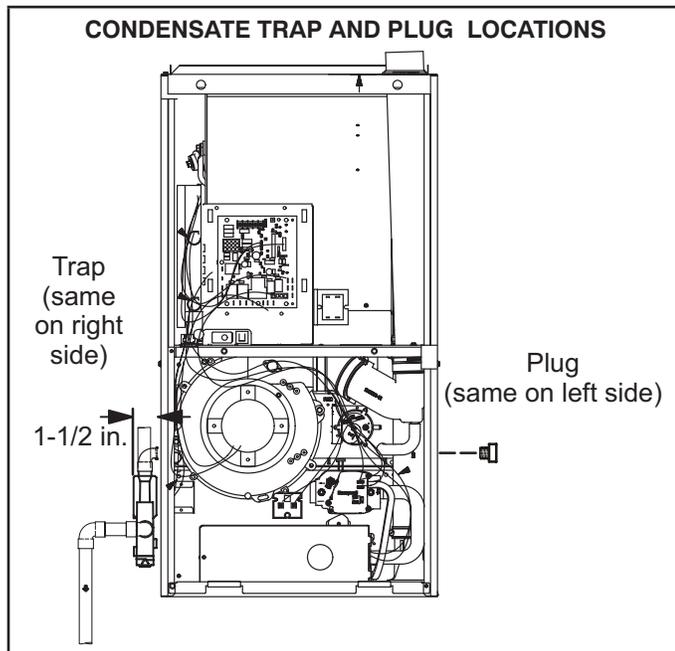

FIGURE 47
This unit is designed for either right- or left-side exit of condensate piping. Refer to figures 47 and 48 for condensate trap locations.
- 2 - Use a large flat head screw driver or a 1/2" drive socket extension and remove plug (figure 47) from the cold end header box at the appropriate location on the side of the unit. Install provided 3/4 NPT street elbow fitting into cold end header box. Use Teflon tape or appropriate pipe dope.